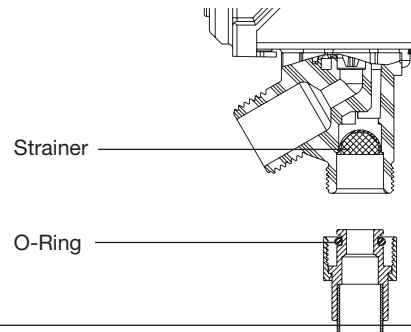

Figure 1
2. Service strainers on IntelliFlow® (see Figure 1). Caution prior to servicing strainers, first remove power to IntelliFlow® by unplugging, then shut off both hot and cold water supply to IntelliFlow®.